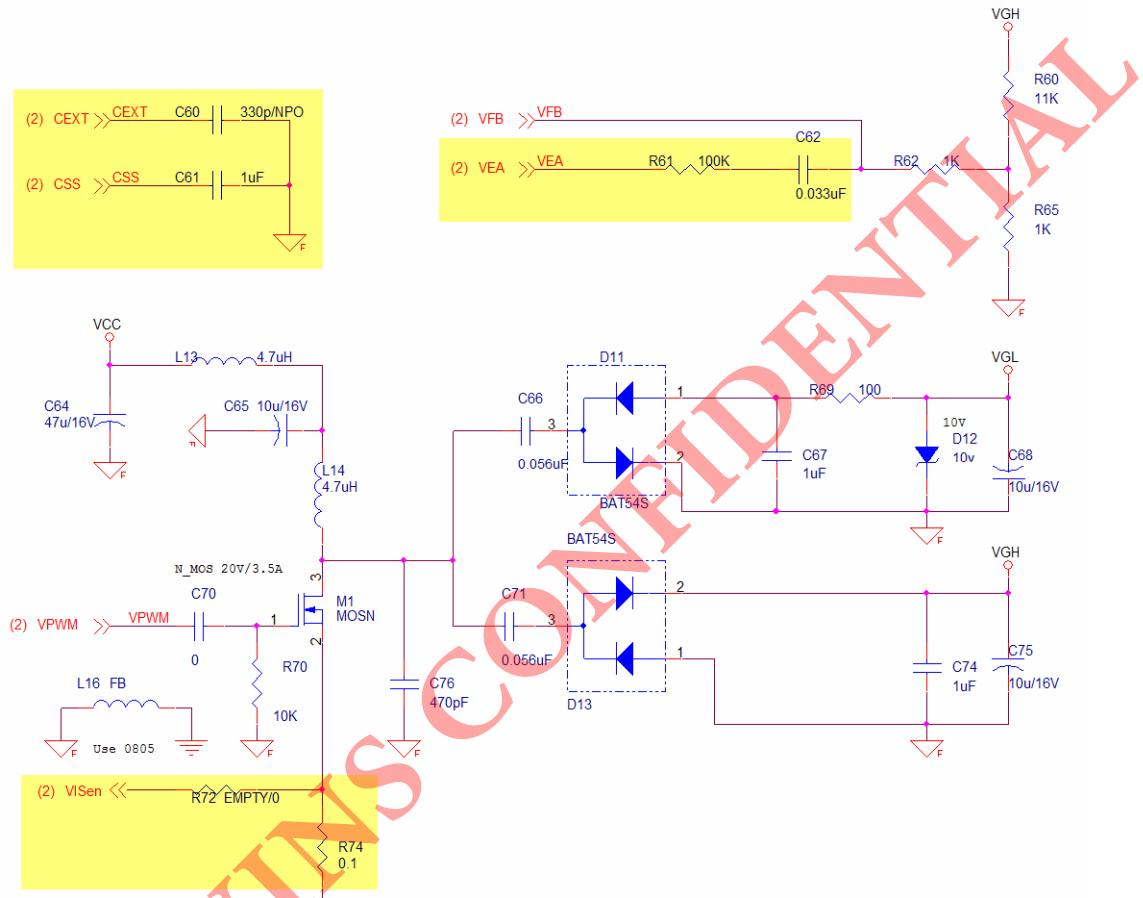

Figure 1-5 T107DL's original DC-to-DC converter circuit.
Remove (NC) all components used in CSS, CEXT, VEA and VISeN of T107DL(C60, C61, C62, R61, R72 and R74 in Fig. 1-5). T107BL's pin assignment is the same as T107DL, so you could apply the original T107DL's schematics/PCB directly and let above components NC(but R74 should be 0ohm or short to GND).